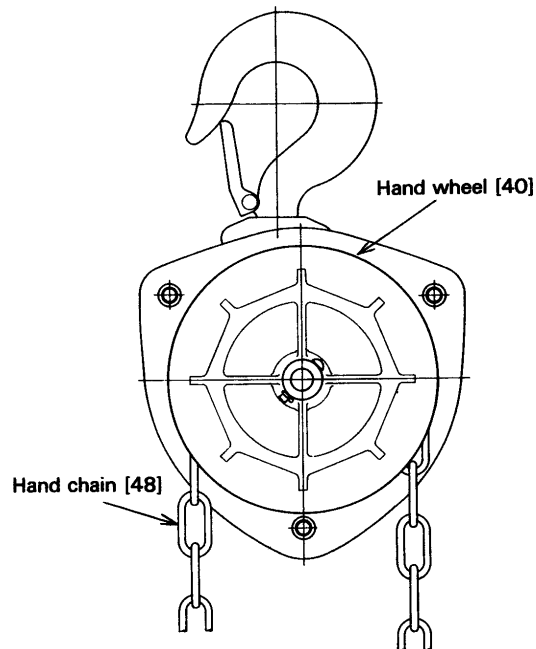

Figure 6-10 Hand Wheel Assembly
- 20) Put the hand chain [48] around the hand wheel [40]. See figure 6-10.